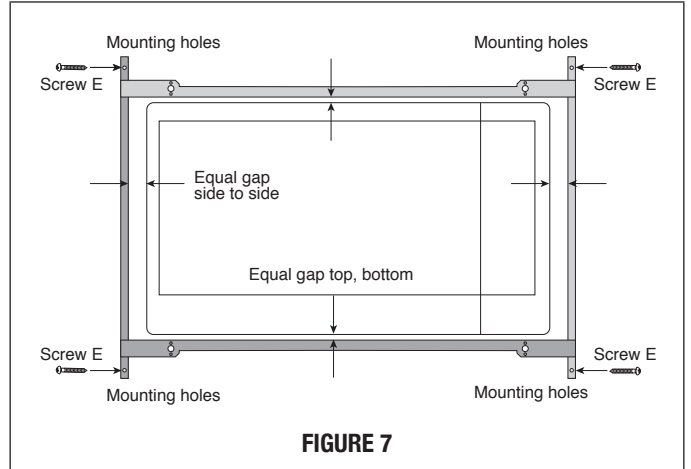

FIGURE 7
4. **BACK FRAME INSTALLATION:** Position back frame with equal space top to bottom, side to side. Mark for 4 holes, center punch and pre-drill the cabinet with $\frac{1}{16}$ " drill bit. Secure frame with 4 SCREWS E. See Figure 7.
4. **BACK FRAME INSTALLATION:** Position BACK FRAME equal space top to bottom, side to side. Mark for 4 holes on the installed wood cleats, center punch and pre-drill the cabinet with $\frac{1}{16}$ " drill bit. Secure frame with 4 SCREWS E. See Figure 7.